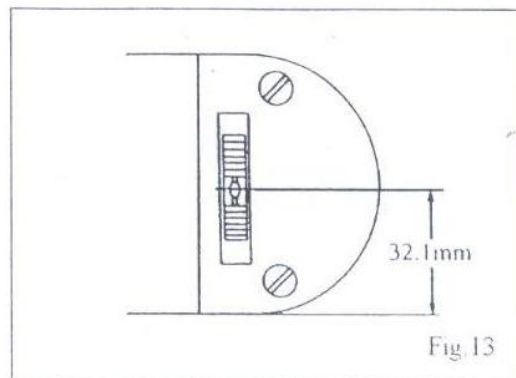

Fig. 13
(Fig.13)
- 4) Adjust to be 32.1 mm from the edge of the needle plate to the center of the needle hole on the feed dog. (Fig. 13)